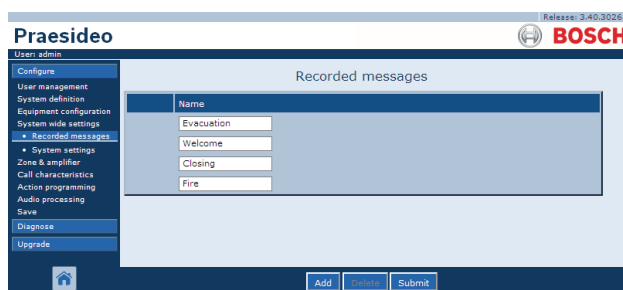

figure 45.6: Unregister a message, step 1
- 1 Go to *Configure > System wide settings > Recorded messages* to open the *Recorded messages* page. A screen similar to the one in figure 45.6 appears in the main frame of the web interface.